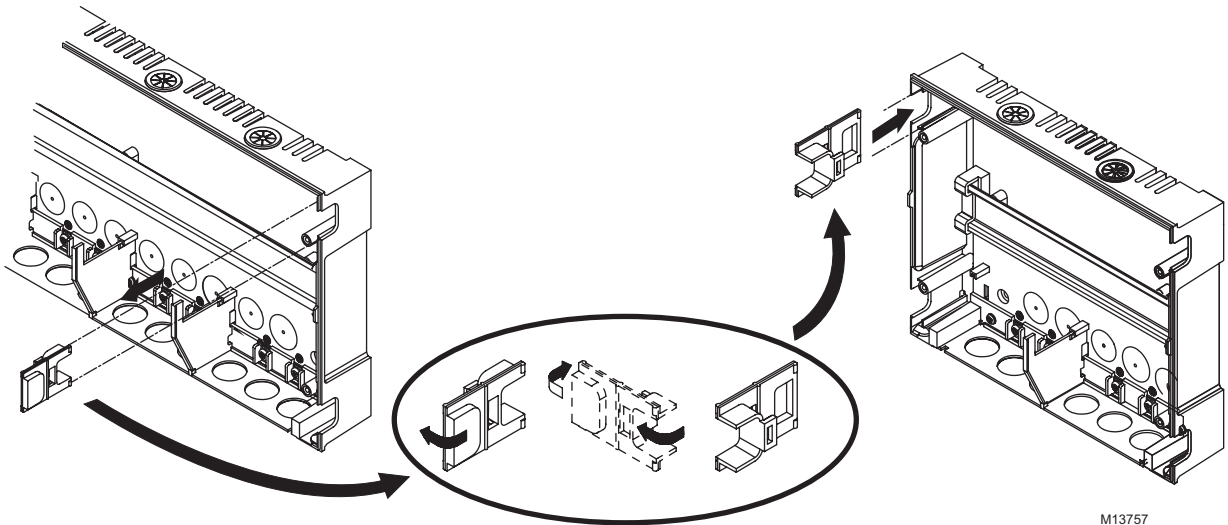

Fig. 3. Orientation of wire channel plugs for creating pass-through wire channel and for joining Main Control Panel to Expansion Zoning Panels.
1. Remove wire channel plugs from the Control Panel and any Expansion Panels (see Fig. 3).
3. Reverse wire channel plugs and re-insert them into their slot to from a wiring channel between the Main Control Panel and the Expansion Zoning Panel (see Fig. 3) and to connect the two panels together.